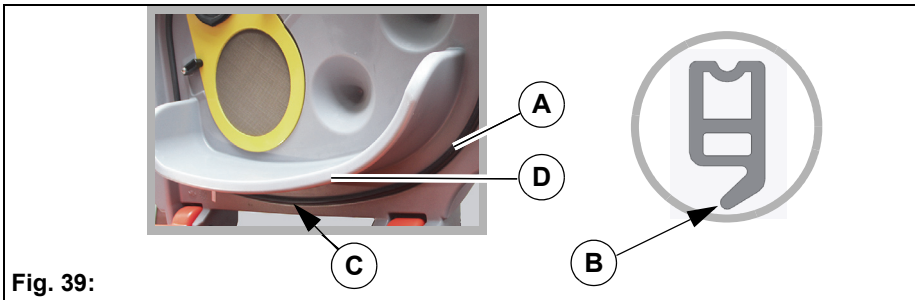

Fig. 39:
Check the function of the seal in the tank cap **Fig. 39-A** daily and replace it if damaged.
- pay attention to correct installation position – sealing lip **Fig. 39-B** must be facing outwards,
- ensure that the disconnection point of the seal finishes edge to edge – the disconnection point **Fig. 39-C** must be below the dripping edge of the cover **Fig. 39-D**,